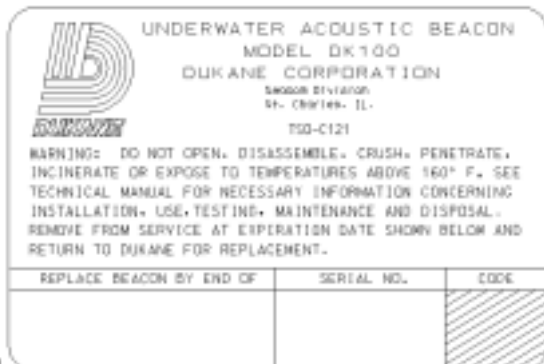

Figure 16. Typical Beacon Label
C. Measure the battery voltage. Note: Inspect label on beacon to determine battery code. See Figure 16 (shaded area) and refer to Figure 17 for voltage specifications. The beacon is operable at the given minimum acceptable voltage. For DK Series beacons if the battery voltage is below the minimum acceptable voltage remove the beacon from service and contact Dukane Corporation for instructions.